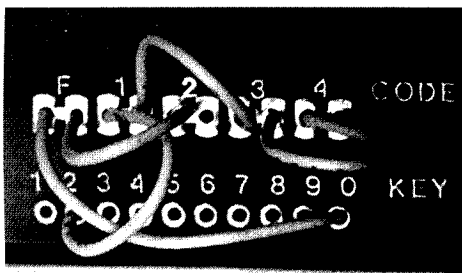

FIGURE 1
Programming of the Master code is accomplished by placing the four Code/Key jumpers into the desired sockets labeled CODE and KEY on the printed circuit board. DO NOT FLEX JUMPER WIRES EXCESSIVELY. Insert jumpers in the sockets from left to right. Be certain each jumper is pressed securely into place and all four jumper wires are installed. Only 1 jumper wire may be placed into each socket. NOTE: ZERO CANNOT BE USED AS THE FIRST DIGIT OF THE MASTER OR AUXILIARY CODE. Repeating digits are allowed and are accomplished by placing the jumper wire in the top right "Same As" socket as illustrated in Figure 1.
Figure 1 illustrates the proper function jumper placement for programming of the zone feature with ½ second arming and a Master code of 2022. The function jumper is placed into the 0 socket (zone with ½ second arming). The first digit jumper is placed in the 2 socket. The second digit desired is a 0 (a repeated digit) and therefore is placed in the "Same As" socket indicating that the second digit in the Master code is the "Same As" the digit previously selected for the function code (0). The third and fourth digit jumpers (repeated digits) are also placed in the "Same As" sockets indicating the third and fourth digits in the Master code are the "Same As" the first digit (2).